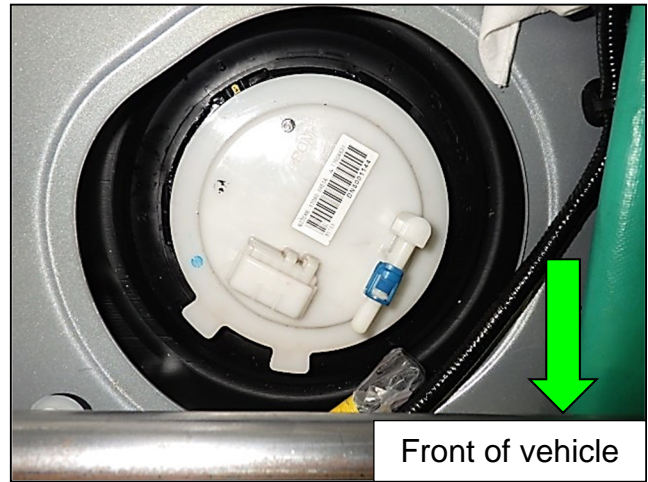

Figure 22
24. Orient the Fuel Pump Assembly, as shown in Figure 22.